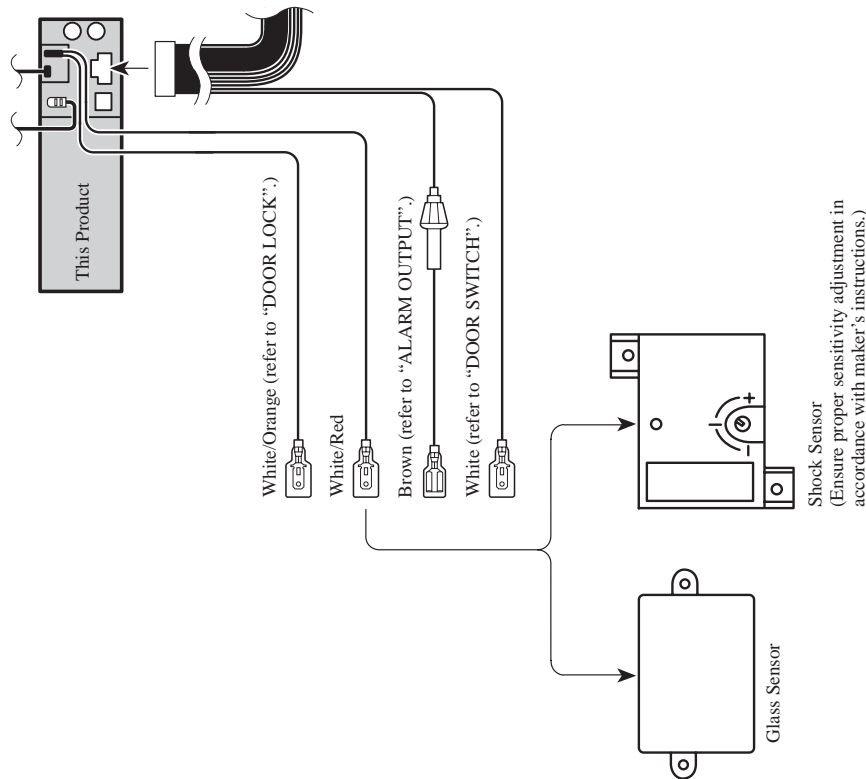

Fig. 30
- White/Red (ALARM SENSOR)** (Fig. 30)